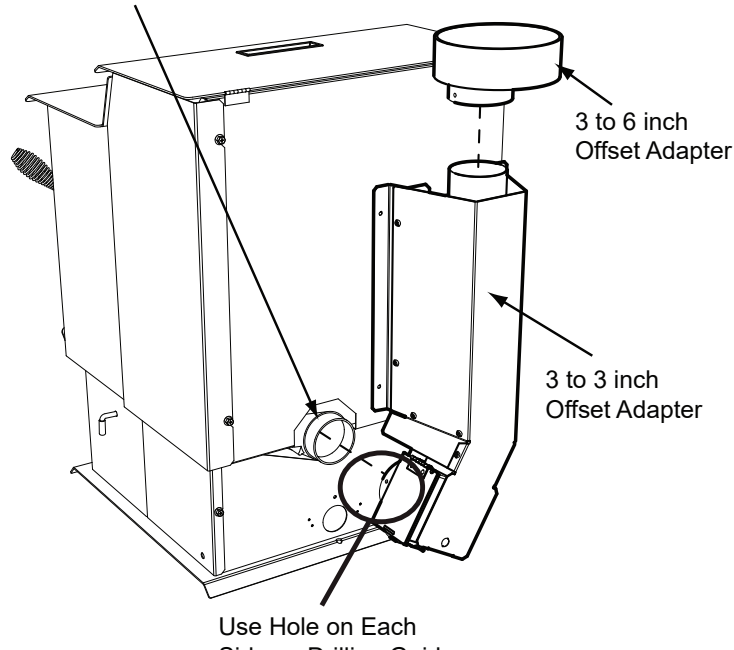

Figure 22.1
1. Put a layer of high temperature silicone on the 3 inch (76mm) exhaust outlet. Do not put silicone inside of pipe (**Figure 22.1**).
2. Slide the top vent adapter onto the rear exhaust outlet and adjust the assembly to a vertical position (**Figure 22.1**).
3. Drill 4 holes with #26 drill bit (provided) into the back of the appliance using the outer shield as a pattern (make sure the assembly is vertical) (**Figure 22.1**).
5. Drill 2 holes with #26 drill bit through the rear exhaust outlet using the 2 holes already in the short horizontal pipe in the top vent adapter as a guide. Install the 2 screws (**Figure 22.1**).
7. To clean the top vent adapter open the clean-out cover (**Figure 22.1**).